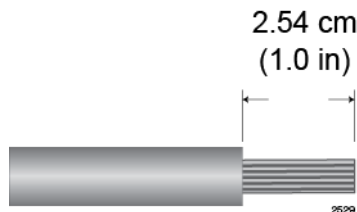

Figure 120. Stripping the solid or Stranded Grounding Wire
1. Prepare an adequate length of solid or stranded 10 AWG grounding wire by stripping it as shown in Figure 120.